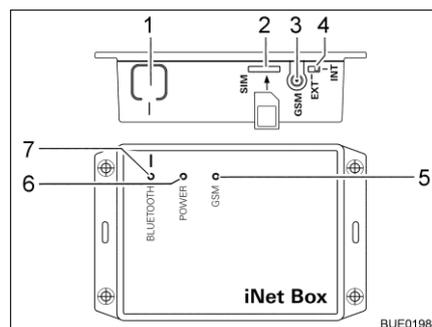

Fig. 227 Truma iNet-Box
- Press the BLUETOOTH button (Fig. 227,1) on the iNet-Box for 1 second. The Truma iNet-Box will be visible in the mobile terminal for approx. 2 minutes (name: "Truma iNet-Box"). During this period, the blue BLUETOOTH LED (Fig. 227,7) will be flashing.
- Carefully insert the mini SIM card with own telephone number and sufficient credit into the slot (Fig. 227,2) of the Truma iNet-Box as shown until it engages. The red GSM LED (Fig. 227,5) must be flashing continuously. If the red LED goes out after 20 seconds: Check mini SIM card.